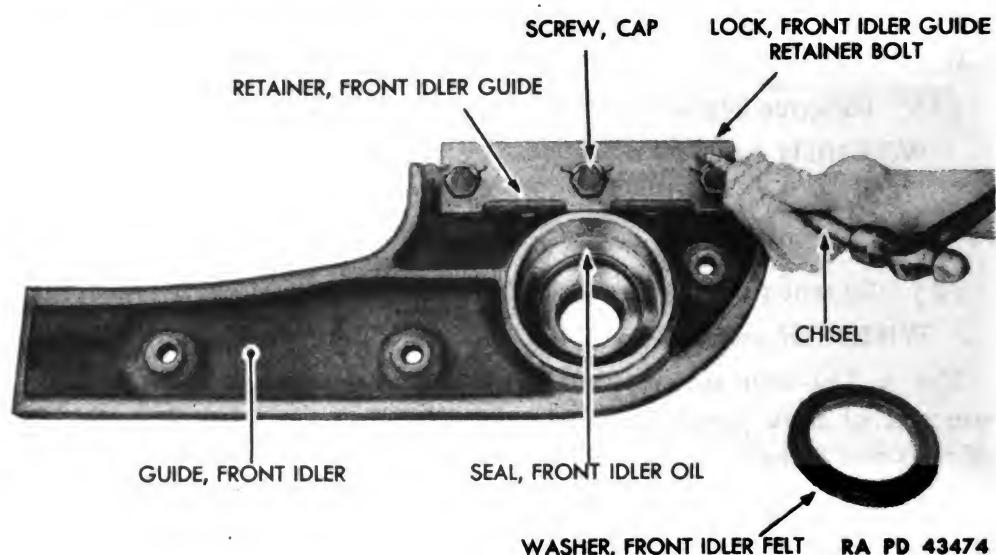

Figure 151 – Front Idler Guide Retainer Removal
(9) REMOVE FRONT IDLER GUIDE RETAINER FROM INNER AND OUTER IDLER GUIDES (fig. 151).
(10) REMOVE FRONT IDLER OIL SEAL FROM INNER AND OUTER IDLER GUIDES (fig. 151).
(1) INSTALL FRONT IDLER OIL SEAL IN RIGHT INNER AND OUTER IDLER GUIDES (fig. 151).
(2) INSTALL FRONT IDLER GUIDE RETAINER TO INNER AND OUTER IDLER GUIDES (fig. 151).